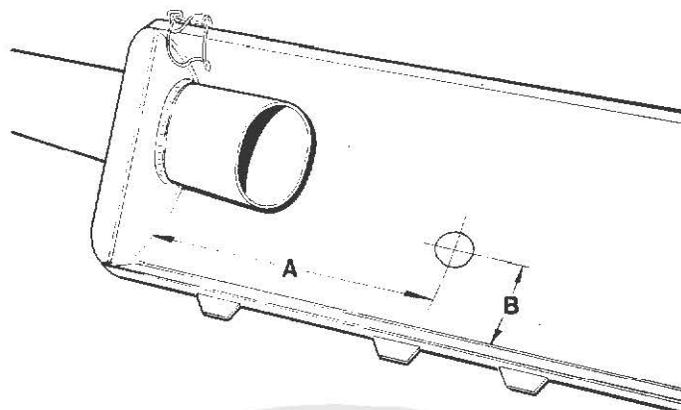

FIG 1
- * Mark the hole position to the dimensions shown in Fig 1 and drill a 3 mm pilot hole.